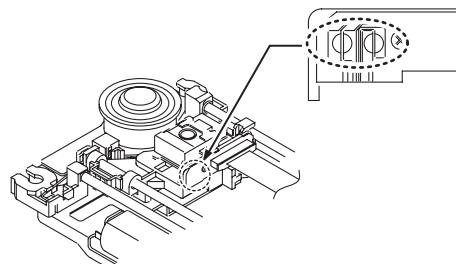

Fig.4
- (4) Solder the solder part of DVD pick up. (See Fig.4)